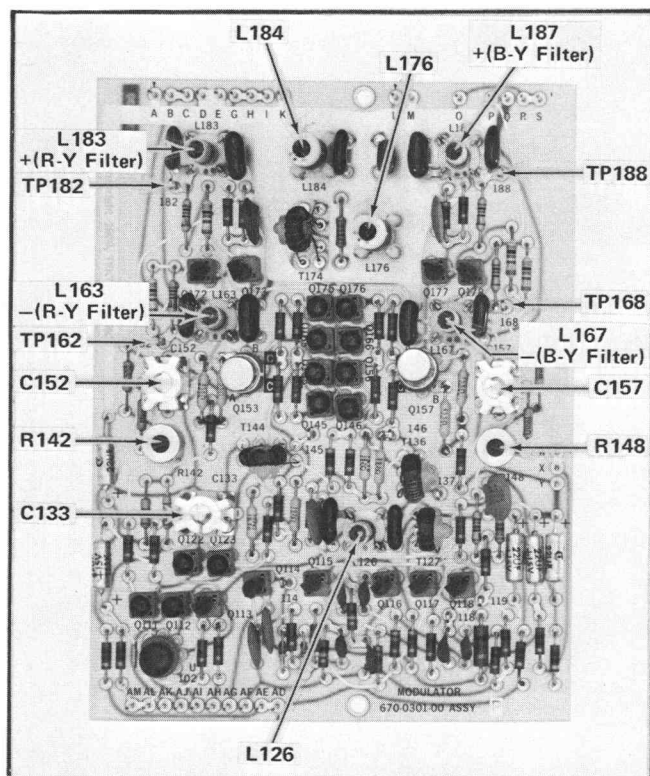
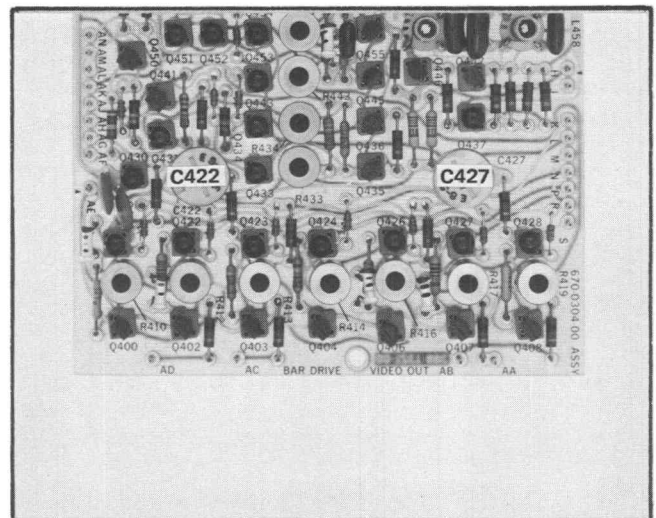

Fig. 5-14. Modulator board adjustment and test point locations.
Fig. 5-19. Bar Drive and Video Out board adjustment locations.
- d. Connect the 10X probe tip to TP188 on the Modulator board (see Fig. 5-14).
g. ADJUST—C157, R148, C152, and R142, (see Fig. 5-14) for minimum peak-to-peak chrominance on the blanking level.
f. ADJUST—C133 (see Fig. 5-14) until the requirement of part e is met.
e. ADJUST—L126 (See Fig. 5-14) for best color bar overlay; must be within 10 mV. (See Fig. 5-17B for improper display.)
f. ADJUST—C422 (see Fig. 5-19) and Readjust L163 (see Fig. 5-14) for minimum 3.58 MHz aberration between burst and the first color bar.
h. ADJUST—C427 (see Fig. 5-19) and Readjust L167 (see Fig. 5-14) for minimum 3.58 MHz aberration between burst and the first color bar.
f. ADJUST—L176 and L184 (see Fig. 5-14) for (1) best green-magenta transition; (2) best square corner on the magenta chrominance; (3) best overlay of the displays. (See Fig. 5-20B.)